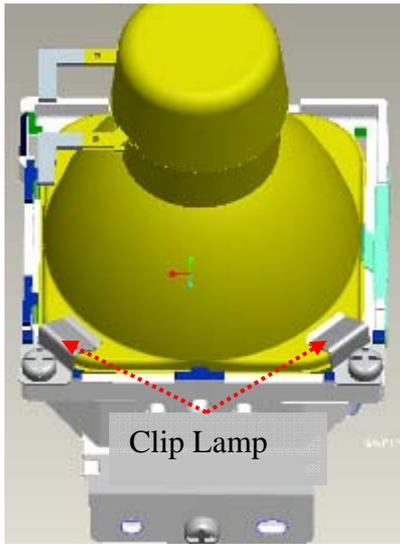

Fig. 1-15
- iv. Assemble Clips Lamp to HLD Lamp and lock screws (Fig. 1-15).